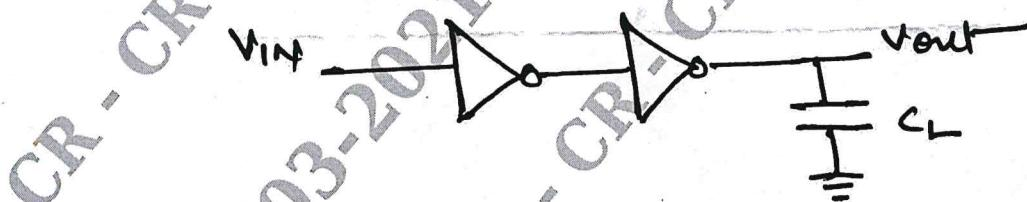

Fig Q4(b)
b. Two MOS inverters are cascaded to drive a capacitive load $C_L = 14cg$ as shown in Fig Q4(b). Calculate the pair delays V_{in} to V_{out} in terms of τ .